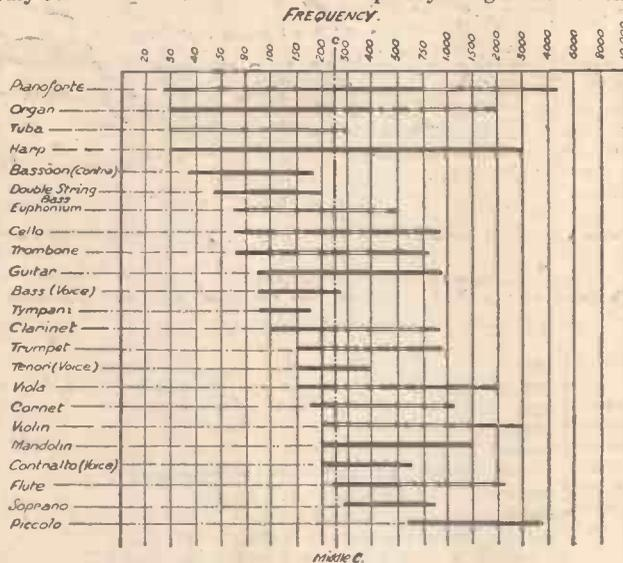

Fig. 1.—The ranges of different musical instruments and voices.
**Z**OOMP! Zoomp! Zoomp! goes the double-string bass. Zing! Zing! goes the cymbal. These are two items which are to be heard in practically any dance band, but which are hardly ever heard on the majority of broadcast receivers. You might say that you can hear the cymbal on your set, or perhaps the string bass, but whilst admitting that this may be true, do you hear them in their correct proportion compared with the remainder of the instruments? Look at Fig. 1. This is a chart which shows the range of frequencies produced by the majority of average musical instruments and voices. It will be seen that it is fairly extensive, but it gives only half the story. I do not wish to give any facts which will bore my reader, but there are certain things which must be explained if you are to understand the problem which is placed before your loud-speaker when you set it the task of reproducing the transmission which is received by your aerial.